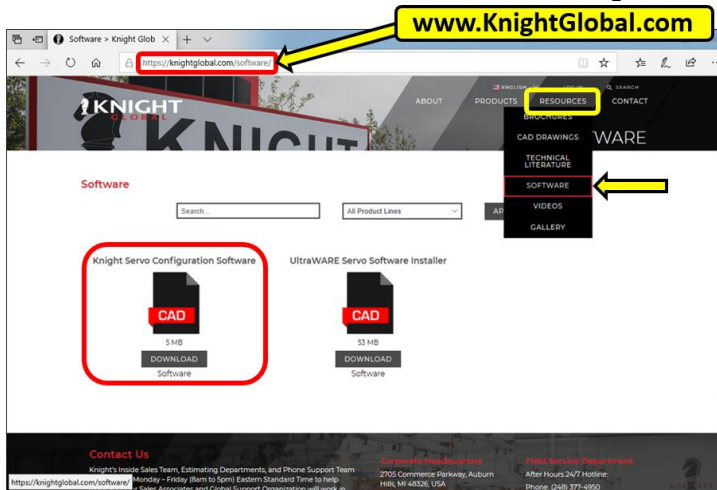

Figure 5-2
- b. Use the QR code to download the Knight Servo Studio software. (See Figure 5-2)